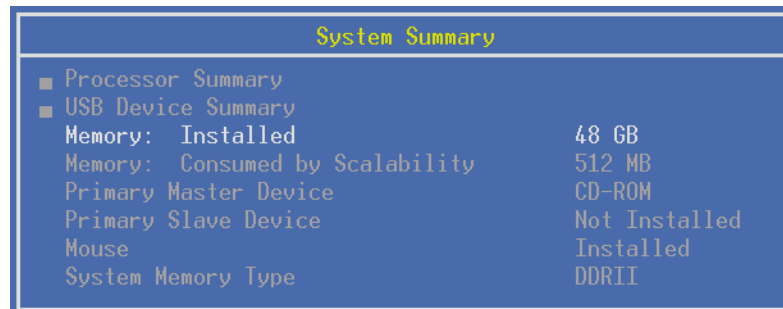

Figure 5-3 System Summary window
2. Select **System Summary** to open the System Summary window shown in Figure 5-3.